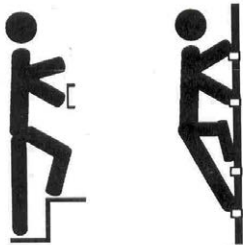

Figure 7.7: Use three-point contact (both feet and one hand, or one foot and both hands) when climbing to and from control station
- Use three-point contact at all times when entering or exiting (Figure 7.7).